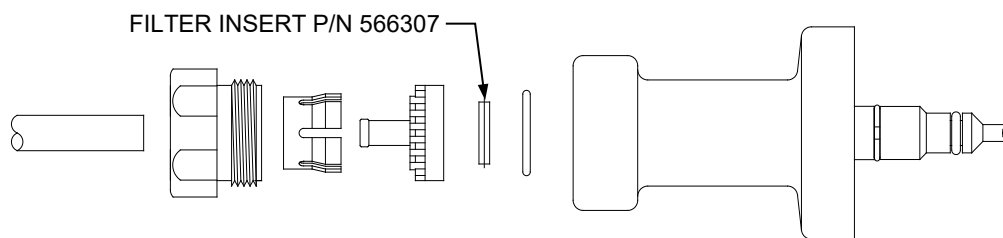

Figure 3. Concentrate and Bicarbonate Connector Assemblies.
2. Filters in the Concentrate and Bicarbonate Connectors (See Figure 3).